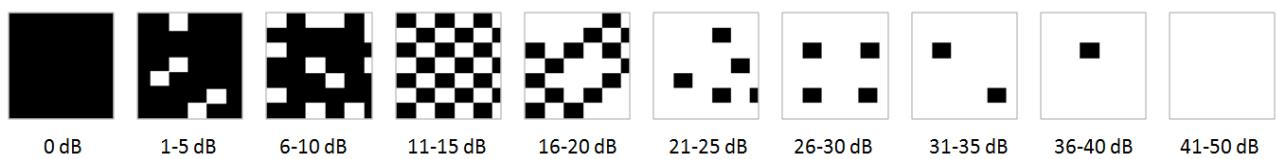

Fig. 34 – Symbols used for the grayscale map and related dB intervals
8. Grayscale VF map (see Fig. 34 for the gray tone symbols adopted), using the Standard Perimetry display convention